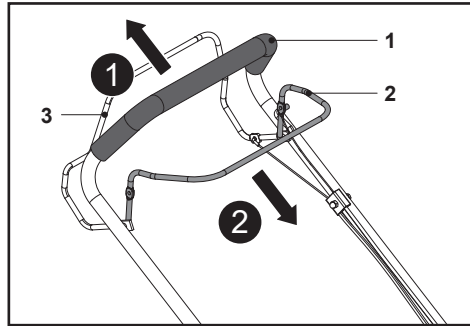

Fig. 19
1. Release the self-propelling lever (3) to stop the self-propelled function (Fig. 19, step 1).
2. Release the brake lever (2) to stop the engine and cutting blade (29) (Fig. 19, step 2).